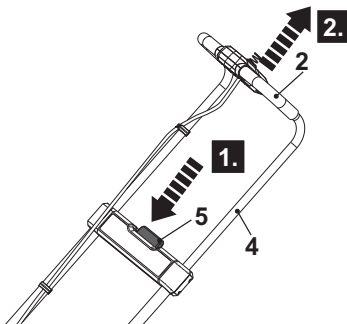
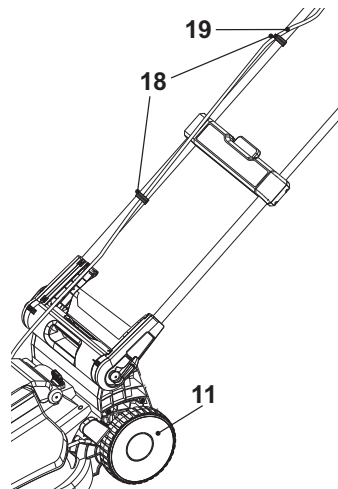

Fig. 3
Fig. 4
4. Press down the lock button (5) and hold it in position (Fig. 3, step 1), then grasp the grip handle (2) to pull out the upper handle bar (4) (Fig. 3, step 2).
5. Release the lock button (5) and continue to pull out the upper handle bar (4) all the way until an audible click is heard.
6. Secure the inter-connection cord (19) with two wire clips (18) (Fig. 4). Pull the inter-connection cord (19) to avoid contact with the rear wheel (11) if necessary.